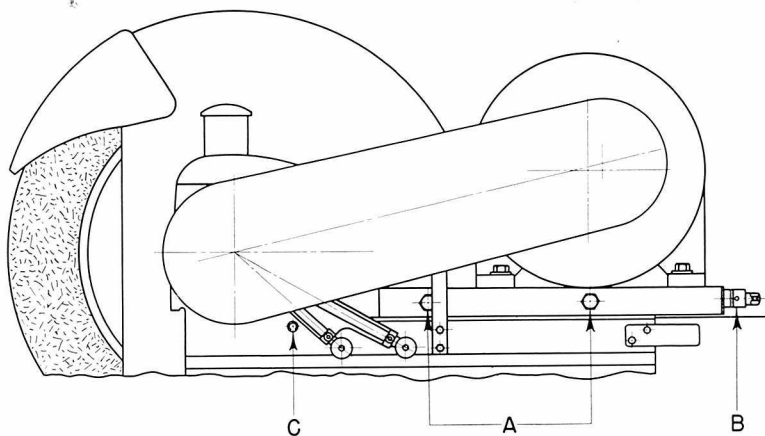

Figure 31
Adjusting the Main Drive Belts. The main drive V-belts, from the motor sheave to the spindle, may be adjusted for stretch and wear. On each side of the wheelhead you will find two hexagon head screws "A" (Figure 31). These four screws clamp the motor slide in position. Loosen them and the motor may be freely slid forward or backward by turning the screw "B" at the rear of the wheelhead slide.
1. Drain the oil from the spindle bearing compartment by loosening screw "C" (Figure 31) four or five turns. The ball that is held in place by this screw is allowed to retract and the oil to drain back into the reservoir.